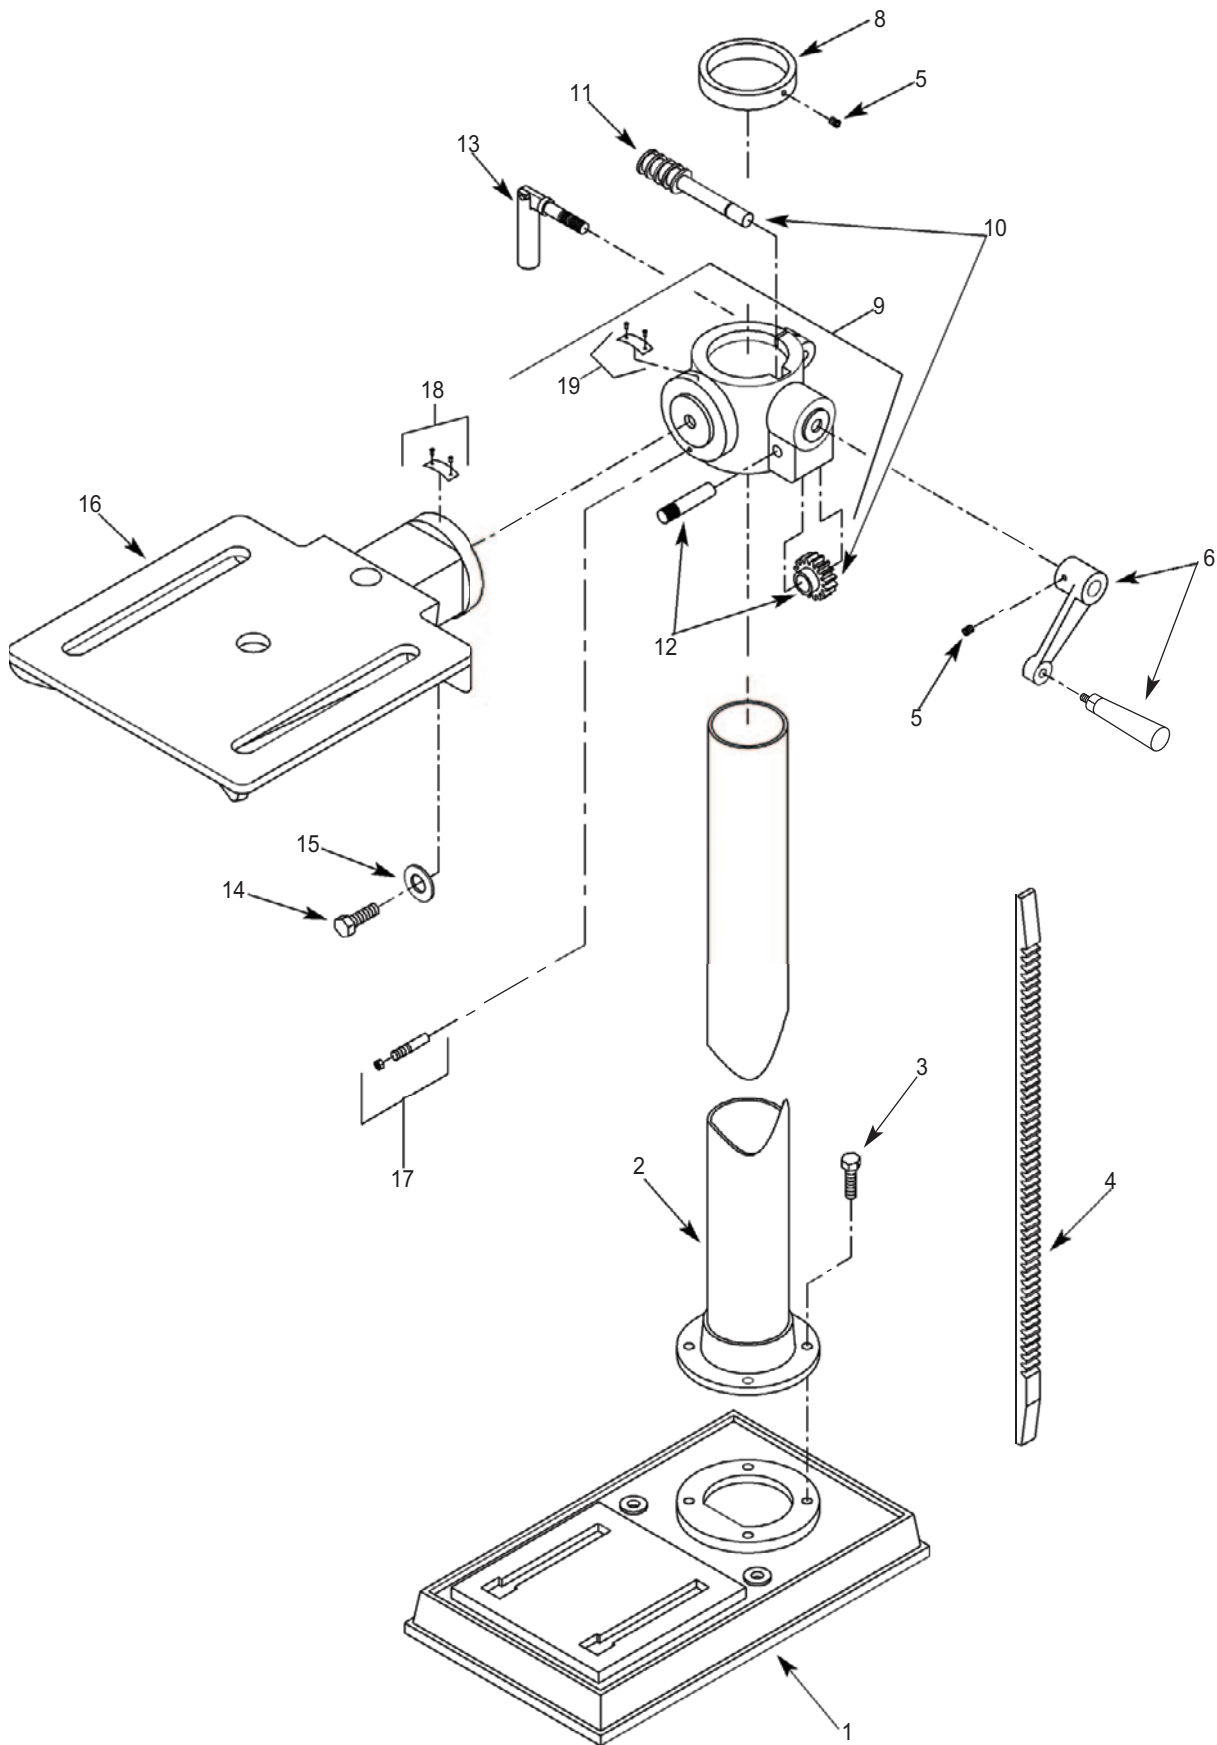

Figure 23 - Replacement Parts Illustration for Base, Model 9680341B
- Apply lubricant to rack and pinion gear (Figures 23 and 24, Ref. Nos. 11 and 22) on column and table assembly.